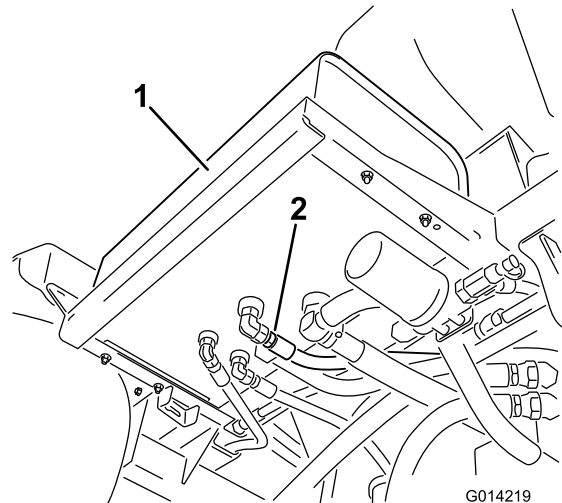

Figure 112
2. Clean the area around a hydraulic-hose fitting on the bottom of the hydraulic-fluid tank (Figure 112).
4. Remove the hose fitting from the tank, allowing the fluid to drain into the pan (Figure 112).